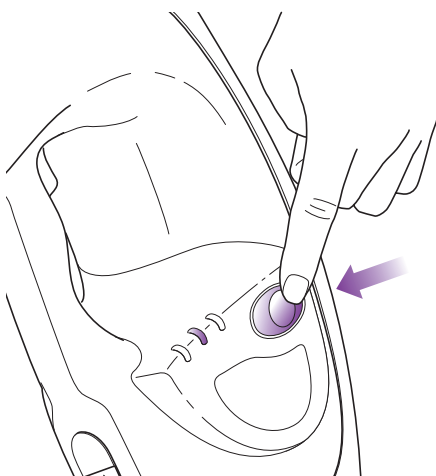

fig. 9
- 3** Press the **ON/STANDBY** button once for **DUST** setting (**DUST** lighted setting indicator will illuminate). **DUST** setting is a light steam for a quick dusting and best dry time. (**fig. 9**)